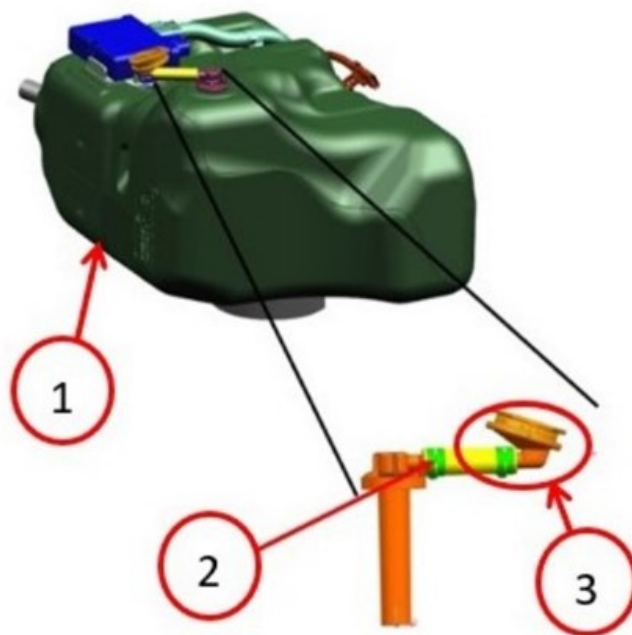

Fig. 1
1. Loosen the hose clamp on the Grade Vent Valve (GVV) hose and replace the GVV from the DEF tank Fig. 1.